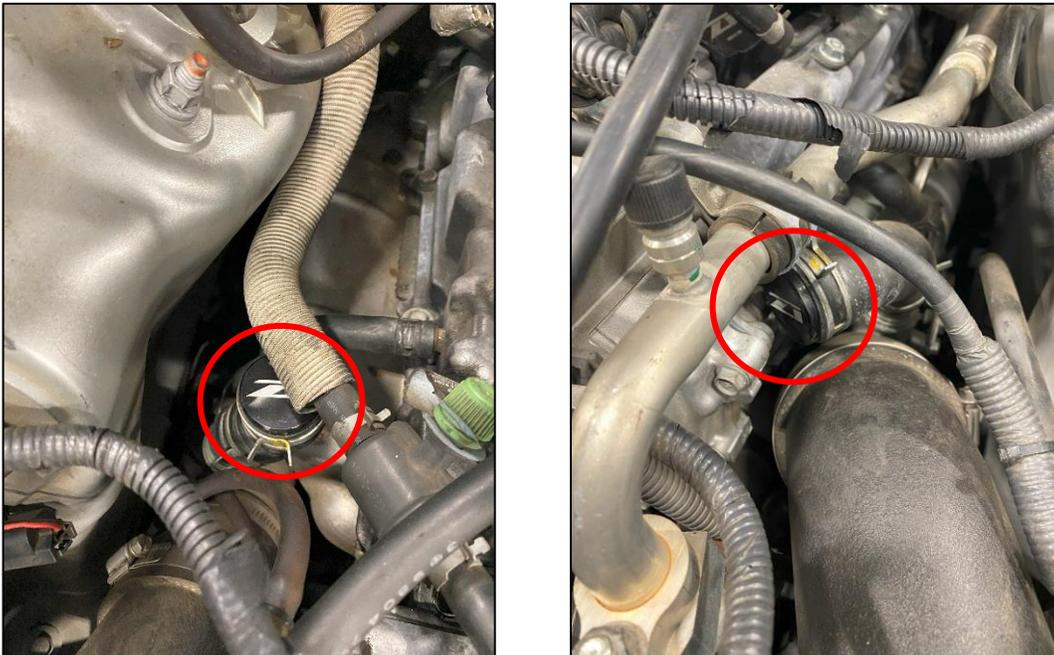

Figure 8
15. Locate the Recirculation Plug, insert it into the open end of the Recirculation Hose removed in *Step 3*. Secure the Hose Plug with the OE Hose clamp. *Figure 8*.